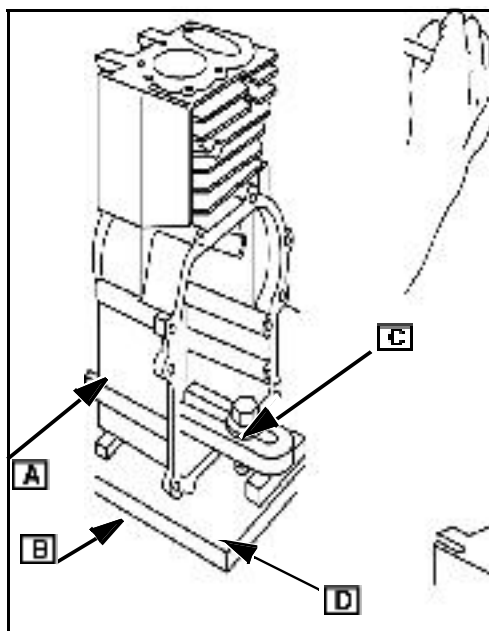

Fig. 46
3. When available, fasten cylinder (A) to a honing fixture (B), with clamp (C) and shims (D) Fig. 46).